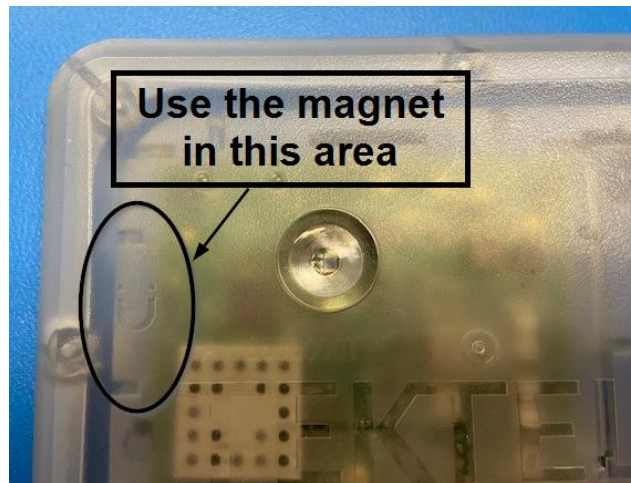

Figure 2: Reed switch location
- i. Place magnet for **3 to 10 seconds** against the enclosure at the magnetic activation site as shown in Figure 2 below.